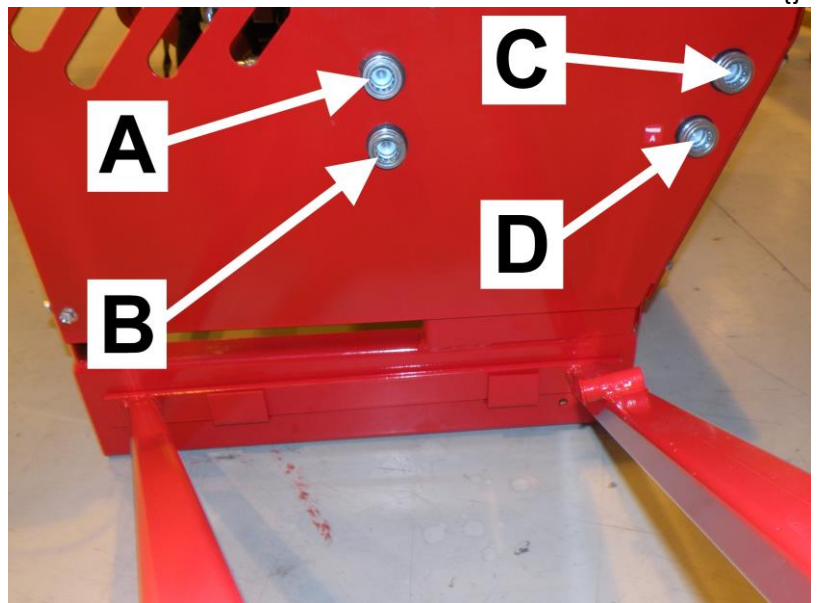
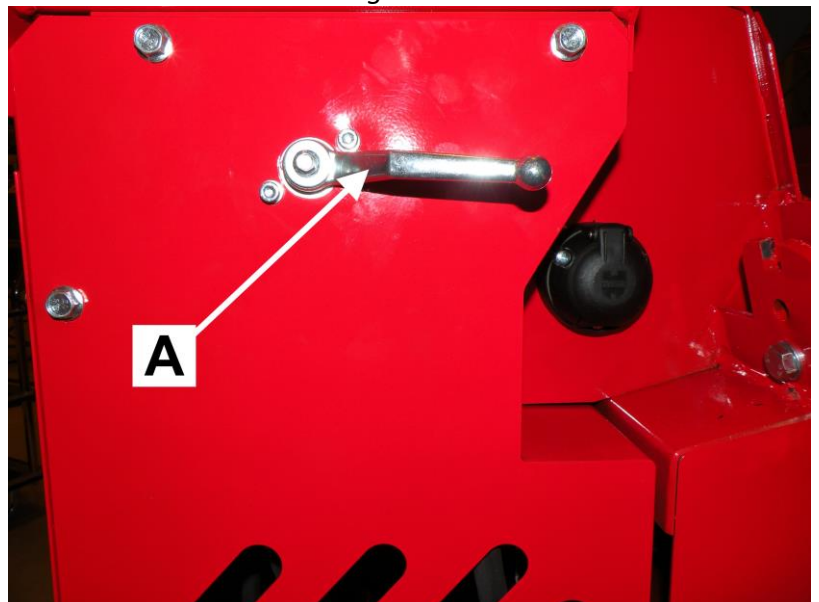

Figure 20.
Figure 21.
Connect the additional hydraulics (for example Connect the additional hydraulics (for example when using the WoodLift 381 log hoist) by pushing the hydraulic hoses of the auxiliary device to quick couplings C and D (please see Figure 20 in Section 4.3.4).
1. Connect the hoses of the auxiliary rollers to quick couplings A and B in the Figure 20.
3. Turn off the cock A in Figure 21 with the handle B, which allows oil to flow to the quick couplings shown in Figure 20.
Note! Cock A must be open (as in Figure 21) whenever the quick couplings A and B in Figure 20 are not in use!